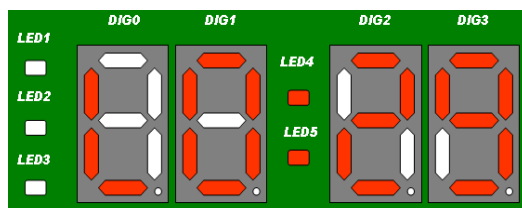

Figure 12-4. Default Lower Threshold
(1) To enter the settings menu, press the Center button on SW4. The display thereafter shows the current value of the lower threshold. Refer to Figures 12-4 and 12-5.